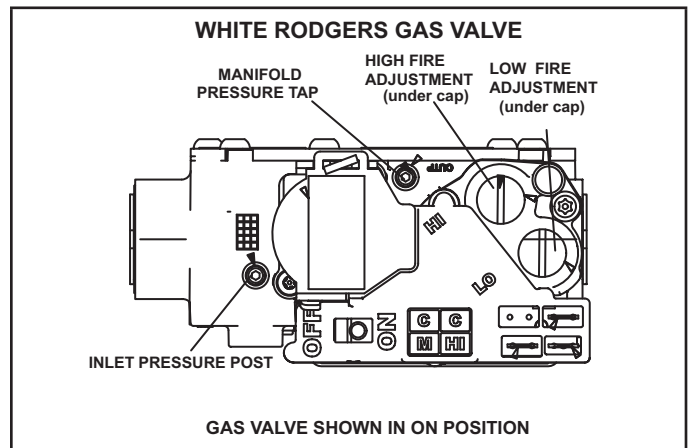

FIGURE 48
Gas Valve Operation (FIGURE 48)
- 6 - Move gas valve switch to **OFF**. See FIGURE 48.
- 8 - Move gas valve switch to **ON**. See FIGURE 48.
An inlet pressure post located on the gas valve provides access to the supply pressure. See FIGURE 48. Back out the 3/32 hex screw one turn, connect a piece of 5/16 tubing and connect to a manometer to measure supply pressure. See table 21 for supply line pressure.
A manifold pressure post located on the gas valve provides access to the manifold pressure. See FIGURE 48. Back out the 3/32 hex screw one turn, connect a piece of 5/16 tubing and connect to a manometer to measure manifold pressure. To correctly measure manifold pressure, the differential pressure between the positive gas manifold and the negative burner box must be considered.
- 4 - After allowing unit to stabilize for 5 minutes, record low fire manifold pressure and compare to value given in TABLE 27. If necessary, make adjustment. FIGURE 48 shows location of low fire adjustment screw.
- 5 - Repeat on high fire and compare to value given in TABLE 27. If necessary, make adjustment. FIGURE 48 shows location of high fire adjustment screw.